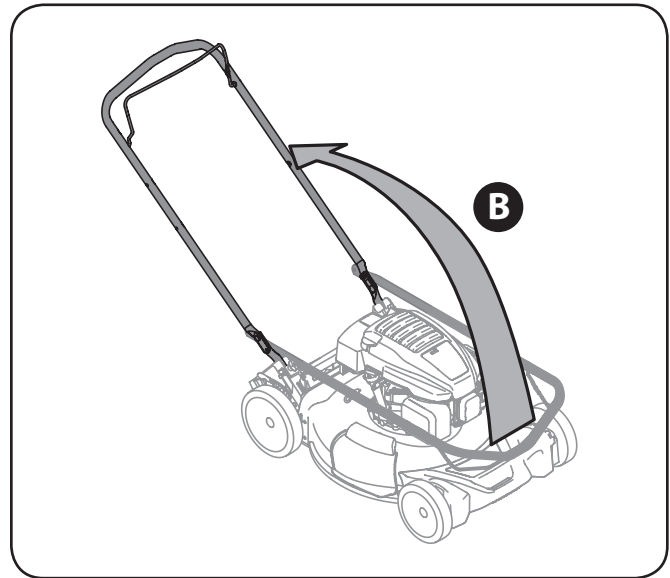

Figure 3-2
- b. While stabilizing mower so it doesn't move, pivot upper handle up as shown in Figure 3-2. Do not crimp cables while lifting the handle up.